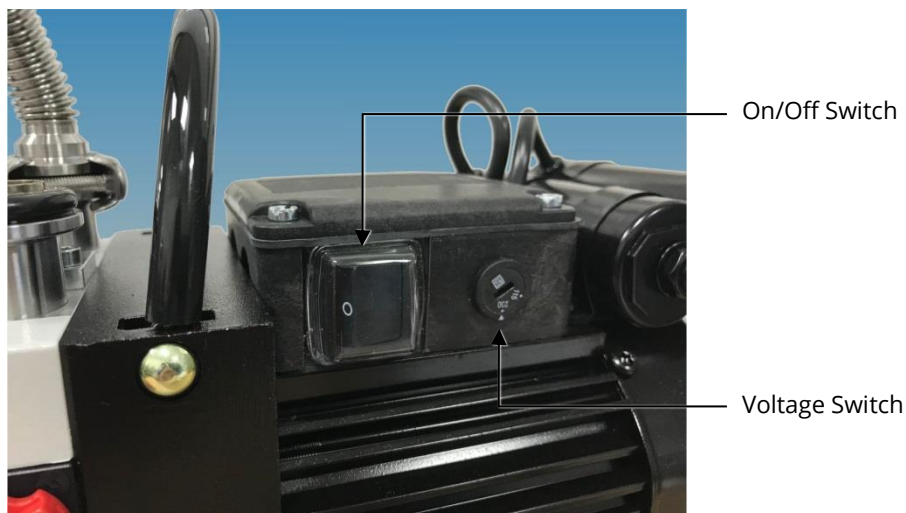

Figure 2-5. Rotary pump
3. Check that the voltage switch is set to the correct voltage for your country and then switch on the pump (Figure 2-5).